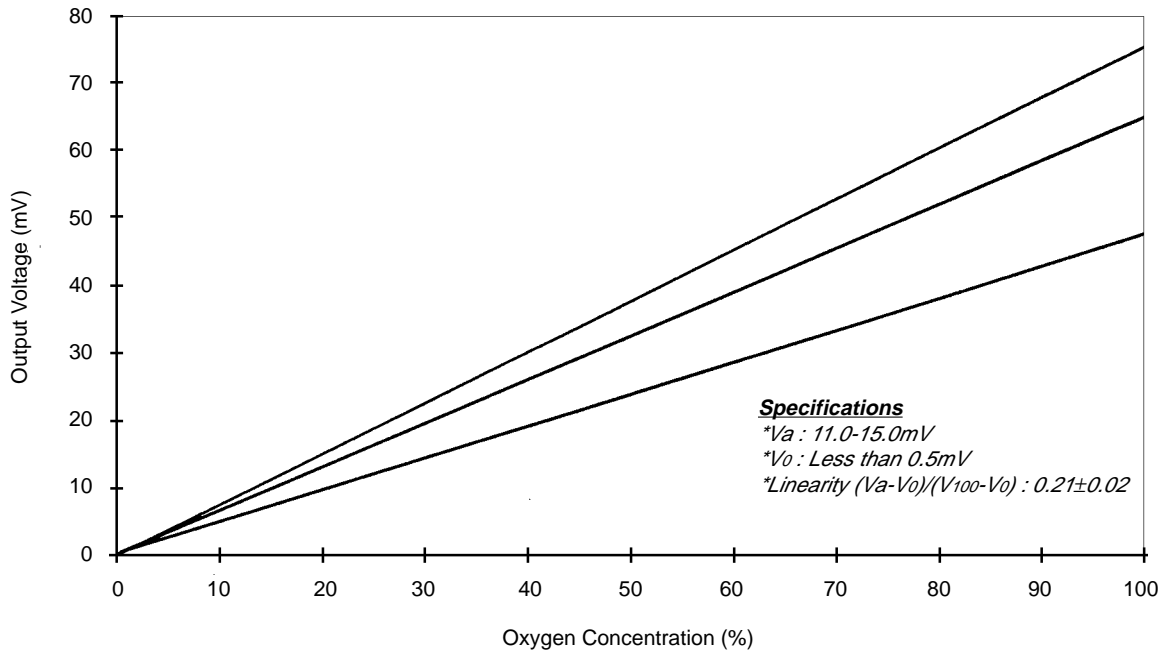

Fig. 2-1 - KE-25 sensitivity characteristics and distribution of offset voltage
3.2 Sensitivity characteristics (see Figs. 2-1 & 2-2)